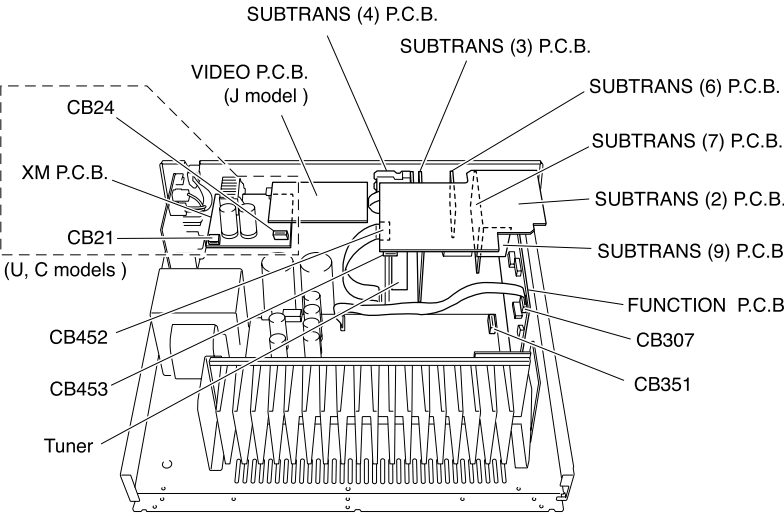
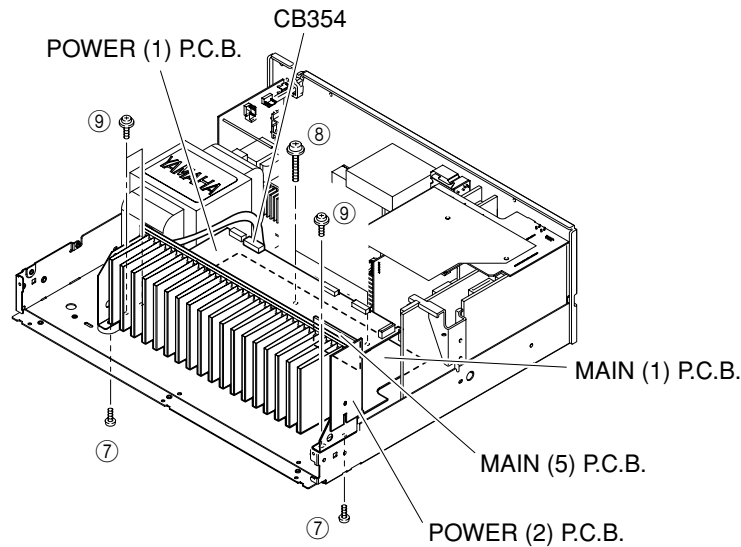

Fig. 4
Fig. 5
4. Removal of FUNCTION, SUBTRANS (2), (3), (6), (7), (9), (10), CONVERSION (HTR-5850), XM (U, C models) P.C.B.s and Tuner
- a. Remove CB21, CB24 (U, C models), CB307, CB351, CB452, CB453 and CB706 (HTR-5850). (Fig. 4)
- c. Remove FUNCTION, SUBTRANS (2), (3), (4) (RX-V457/HTR-5840), (6), (7), (9), (10) (HTR-5850), CONVERSION (HTR-5850), XM (U, C models) P.C.B.s and Tuner. (Fig. 4)
4. FUNCTION, SUBTRANS (2), (3), (6), (7), (9), VIDEO, TUNERの外し方
- a. CB307, CB351, CB452, CB453を外します。(Fig. 4)
- c. FUNCTION, SUBTRANS (2), (3), (6), (7), (9), VIDEO, TUNERを取り外します。(Fig. 4)
5. Removal of MAIN (1), (5) and POWER (1), (2) P.C.B.s
- Remove CB354. (Fig. 5)
- Remove 2 screws (7), 2 screws (8) and 3 screws (9). (Fig. 5)
- Remove MAIN (1), (5) and POWER (1), (2) P.C.B.s. (Fig. 5)
5. MAIN (1)、(5)、POWER (1)、(2) P.C.B.の外し方
- CB354を外します。(Fig. 5)
- 7のネジ2本、8のネジ2本、9のネジ3本を外します。(Fig. 5)
- MAIN (1)、(5)、POWER (1)、(2) P.C.B.を取り外します。(Fig. 5)